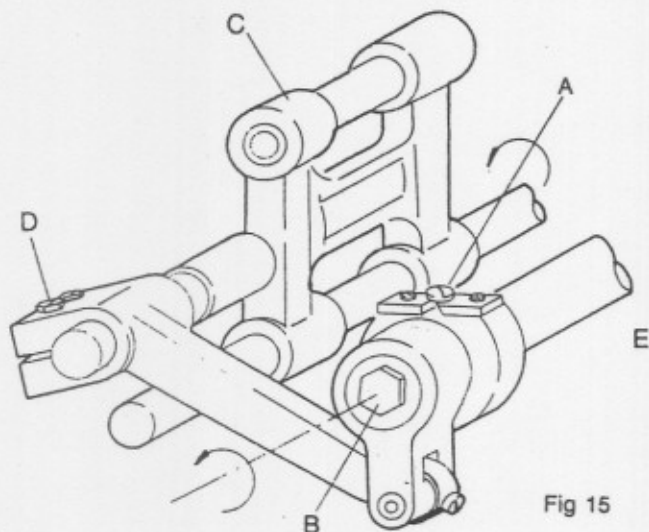

Fig 15
1. If turning the feed adjusting nut 8 in Fig 15. to the counterclockwise, this nut is going to be loosened.
2. Inturning the feed adjusting screw A in Fig. 15. to right, feeding becomes smaller and doing to left, the feeding becomes bigger.
3. The adjustment is decided correctly, please tighten the feed adjusting nut B in Fig. 15.